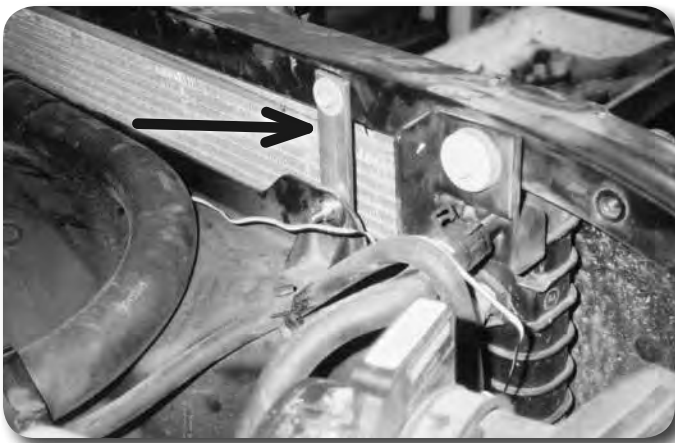

Figure 19
45. Install the new 3" fan shroud relocation brackets (same as bracket used in the previous step) to the original shroud mounting holes using the stock bolts **Figure 19**. Install the brackets so the studs point toward the engine compartment. Torque hardware to 10 ft-lbs.